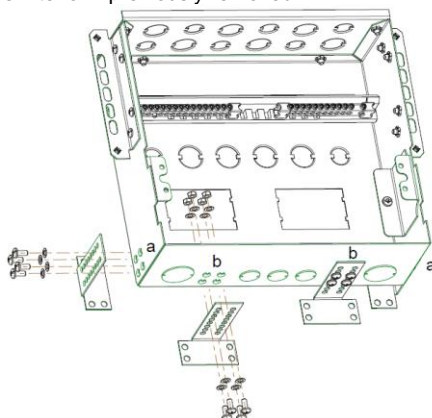

Fig. 1.1
- Mount the unit into its installation position, Both 'L' brackets provided must be fitted in positions 'a' OR 'b', see Fig 1.1. When installed the base of both 'L' brackets should sit flush against the enclosure back wall in order to support the unit. Assess which 'L' bracket position (a OR b) best suits the installation and which bracket fixing holes should be used (the depth of the bracket fixing can be adjusted using the various bracket holes). Remove the unit from the installation.
- Use the following fasteners provided to attach each 'L' bracket to the box: 4 x M5 screws, 4 x M5 nuts and 8 x M5 serrated washers, See Fig. 1.1.